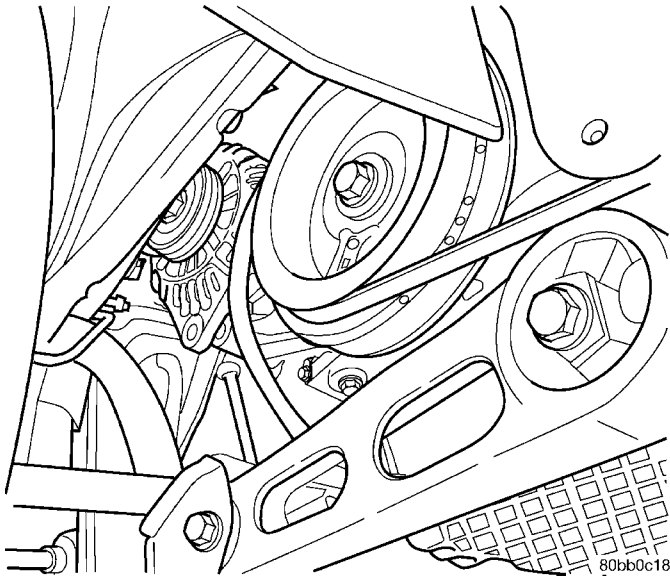

Fig. 4 Splash Shield and Belt
- (4) Remove accessory drive splash shield (Fig. 4).